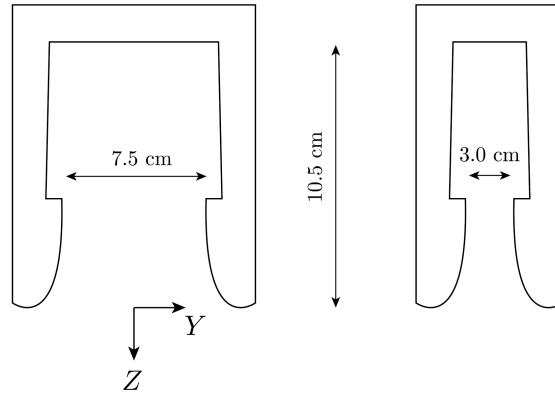

Figure 4: Dimensions and axes of the robot grippers. The X-axis points out of the page.
3. The main design challenge is to decide on a good approach direction for the hand. Given the two contact points, you can approach the grasp from any direction that is perpendicular to the line connecting the two contact points. Your job is to pick the most ergonomic approach direction. For instance, there may be some approach direction wherein if you placed the end-effector in that pose then it would be in collision with the object. You want to make sure this is not the case. Recall that you have access to a full mesh of the object. Use this to your advantage when doing collision checking. Look at figure 4 to get a better idea of what the gripper's reference frame looks like, and what the dimensions of the gripper are.